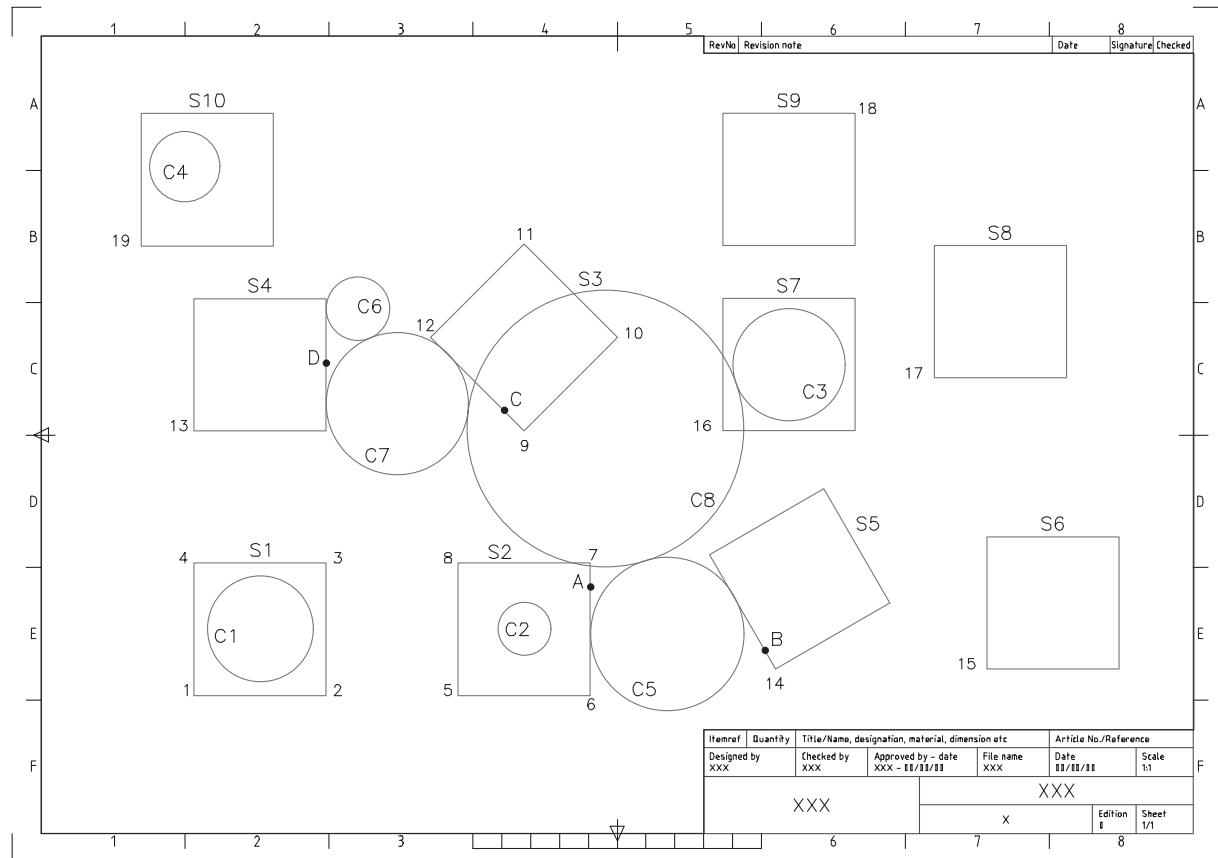

Figure 7.2 Line and circle creation.
6 Refer to Figure 7.2.
Figure 7.2 reference
- 2 With the LINE command, draw a 50 unit square the start point being at 50,150 which is point 13 in Figure 7.2.